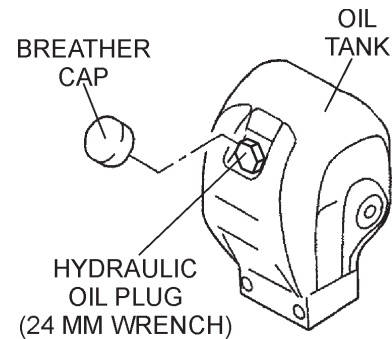

**Figure 29. Hydraulic Oil Cylinder/Hose**
1. Disconnect the hydraulic hose (Figure 29) connected to the hydraulic oil cylinder.